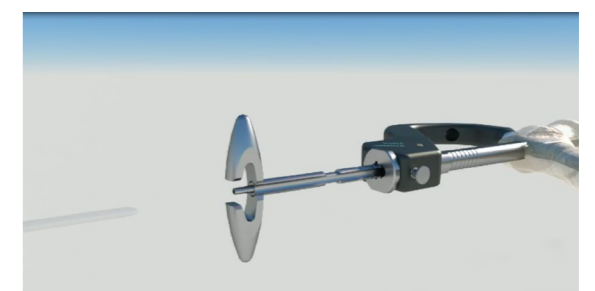
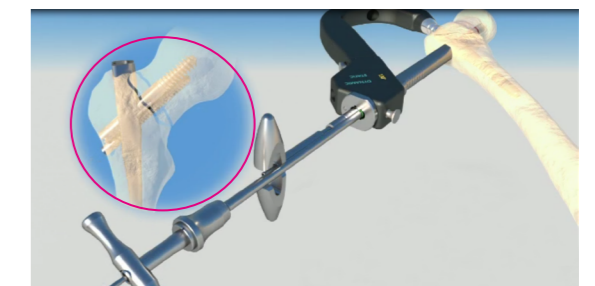

Figure 15a
Figure 15b
- After removing the anti rotation bolt (Figure 15a), screw in the pressure screw and observe the marked line on the pressure screw wrench, which is flush with the guide sleeve, indicating that the pressure screw has been implanted in place (Figure 15b).